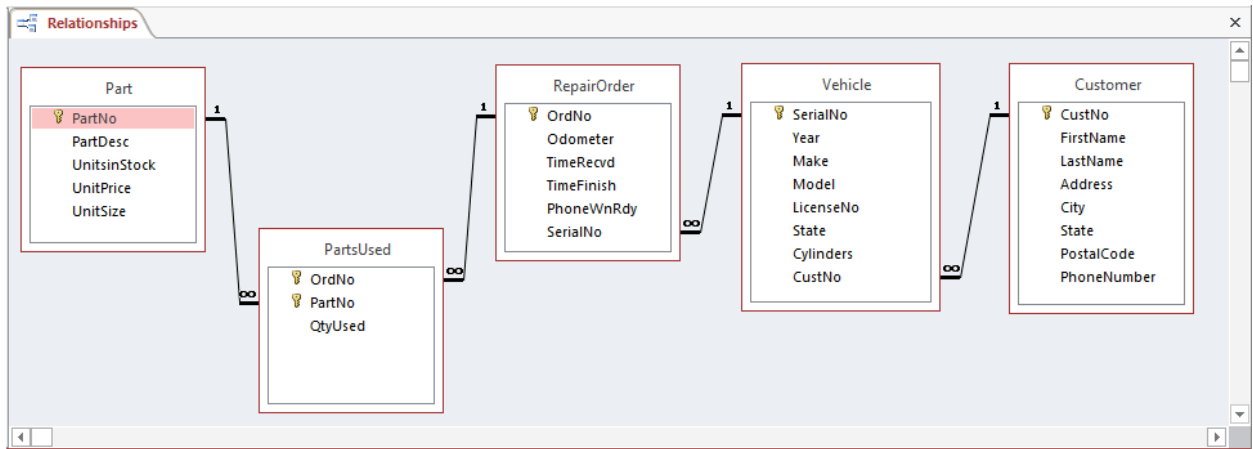

Figure 51: Relationships Window after Rearranging Tables
3. **Drag the Tables into Proper Order:** Hold the mouse button down and drag the tables beside each other in the following order: *Customer*, *Vehicle*, *RepairOrder*, *PartsUsed*, and *Part* (Figure 51). If the tables are already in order, disregard this step.